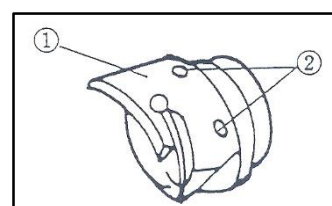

Figure 7.18
Ensure the needle is in the 'up' position and remove the throat plate. Referring to Fig. 7.18 undo the two screws (2) and remove the moving knife (1). Fit the new knife and tighten all screws.